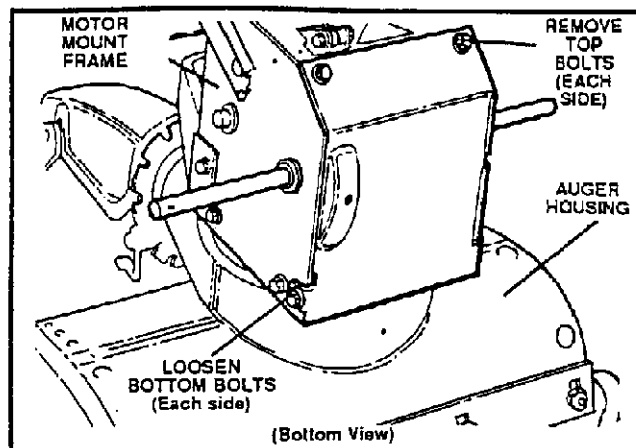
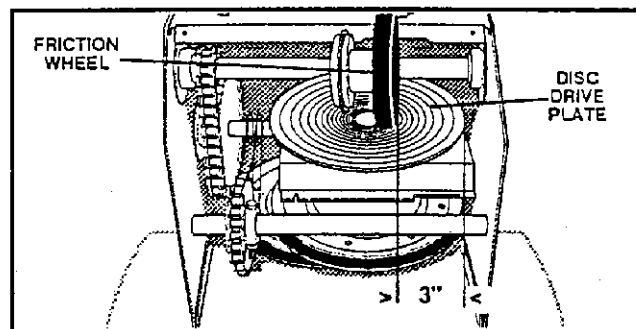

FIG. 10-SERV & ADJ
FIG. 11-SERV & ADJ
- Remove top two bolts securing auger housing to motor mount frame. Loosen bottom two bolts (See FIG. 10-SERV & ADJ).
- Remove the bottom panel (See FIG. 10-SERV & ADJ).
- Position the shifter lever in first (1) gear.
- Note the position of the friction wheel on the disc drive plate. The right outer side of the disc drive plate should be 3" from the center of the friction wheel (See FIG. 11-SERV & ADJ).
- Move friction wheel to proper position as indicated in previous step (See FIG. 11-SERV & ADJ).